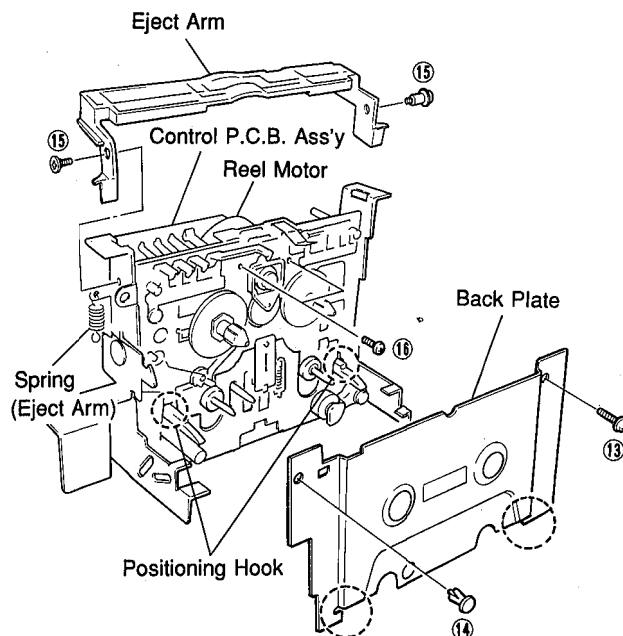

Fig. 7
- a. Remove 1 screw (13) and 1 plastic rivet (14) in Fig. 7.
* When reinstalling it, be sure to fit its lower ends to the positioning hooks in Fig. 7.
- c. Detach the spring (Eject Arm) in Fig.7.
- d. Remove 2 special screws (15) and then remove the Eject Arm in Fig.7.
- g. Remove 2 screws (16) and then remove the Reel Motor in Fig.7.